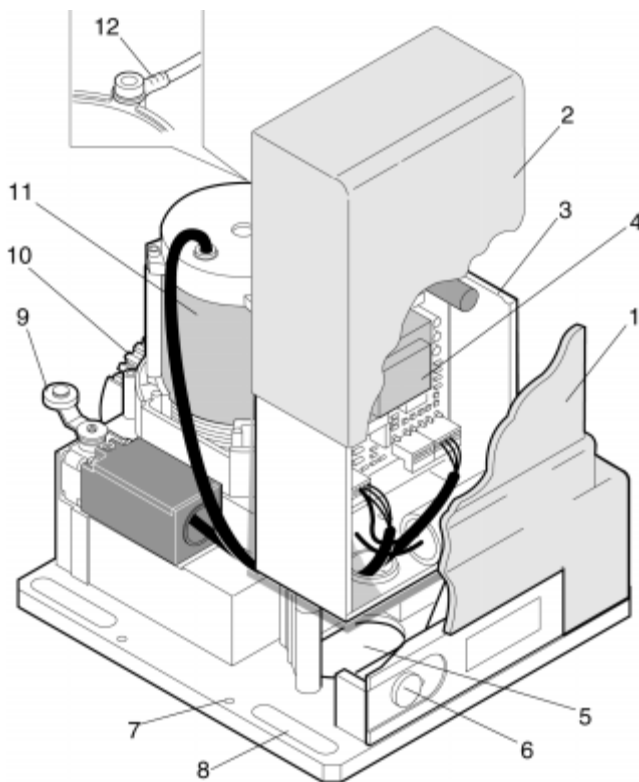

Fig. 1
- 6) Fasten the operator to the base plate by means of the screws and washers supplied, as shown in fig. 6. The positioning of the operator is shown in fig. 5. Pass the electrical cables through the relevant opening (5, fig. 1) on the base of the operator.
- 7) For versions with control unit, pass the electrical connection cables through the relevant opening on the base of the electronic control unit support (3, fig. 1), using the cable clamp supplied.
- 1) Connect up the earth cable of the system to the position shown in 12, fig. 1.